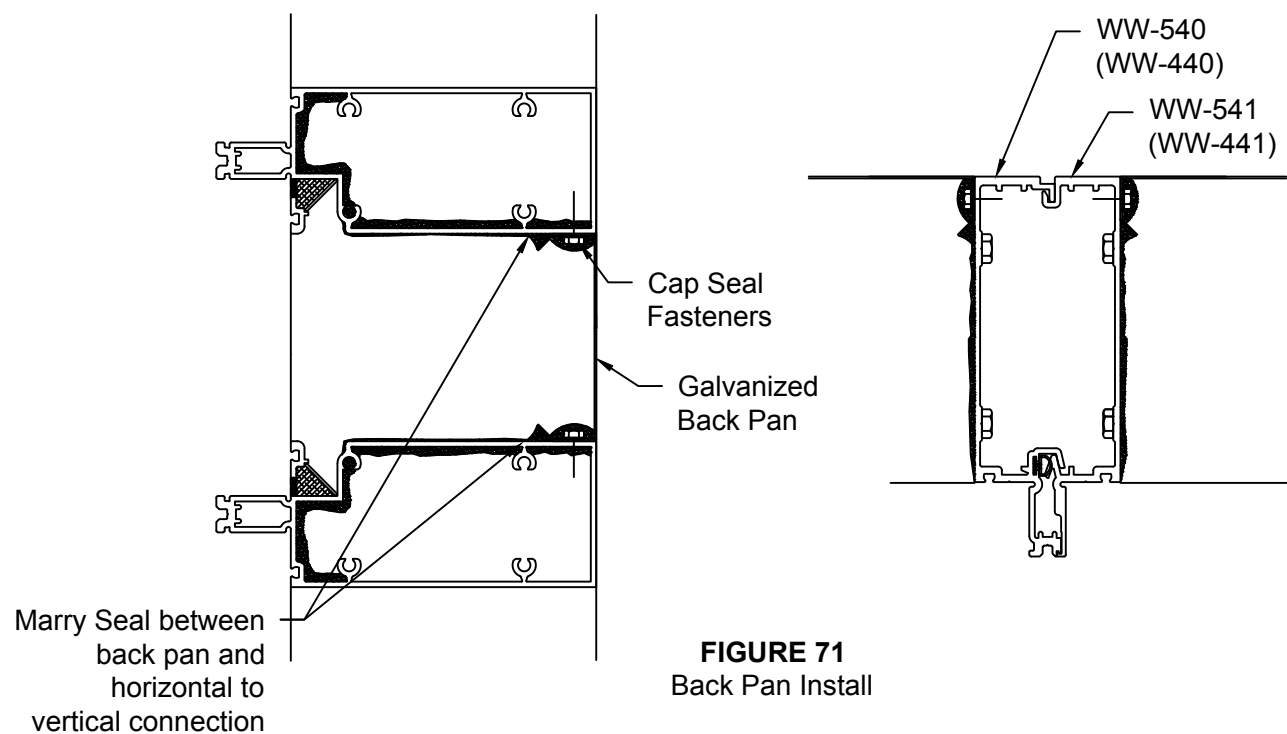

FIGURE 71
- 6.22 The back pan is installed at back of horizontal from exterior and fully sealed around perimeter, cap seal fasteners and marry seal with seals at verticals to horizontals connections See **FIGURE 71**, page 17.